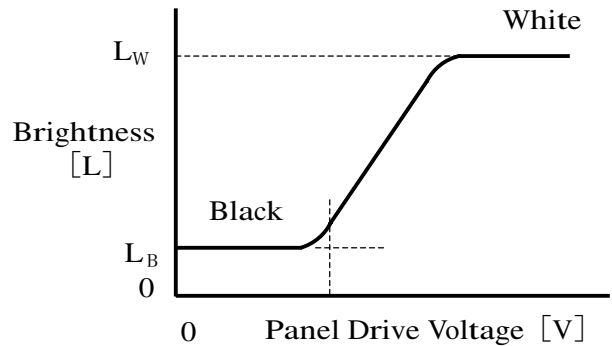

Fig.9-3 Voltage-Brightness Characteristics
Determined by Formula (1) based on Fig. 9-3 Voltage-Brightness characteristics.